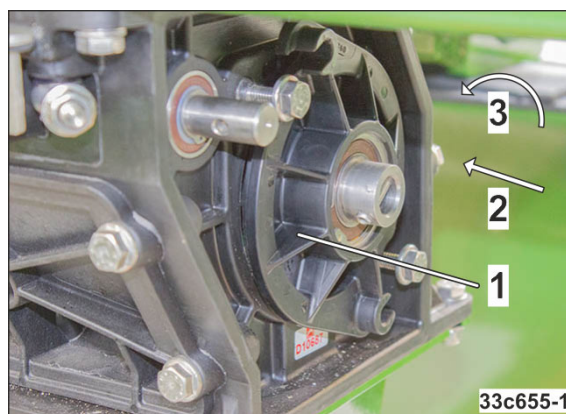

Fig. 239
5. Close the housing cover (Fig. 239/1).
6. Pull the shutter (Fig. 239/2) slowly out of the metering unit.